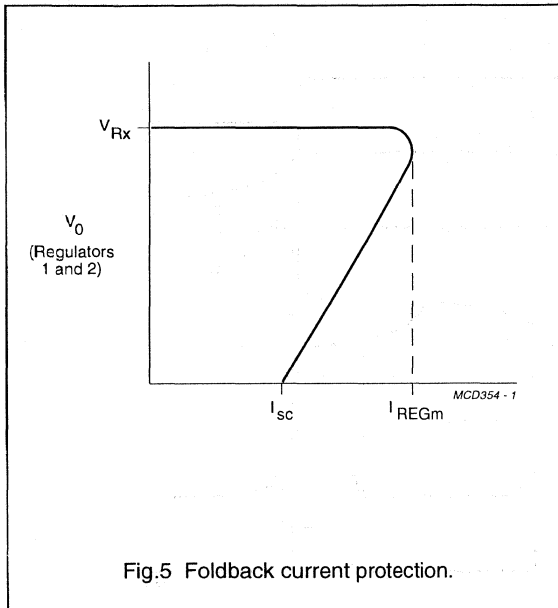

Fig.5 Foldback current protection.
4. The foldback current protection limits the dissipated power at short-circuit (see Fig.5).
6. At current limit, I_{REGm} is held constant (behaviour in accordance with the broken line in Fig.5)